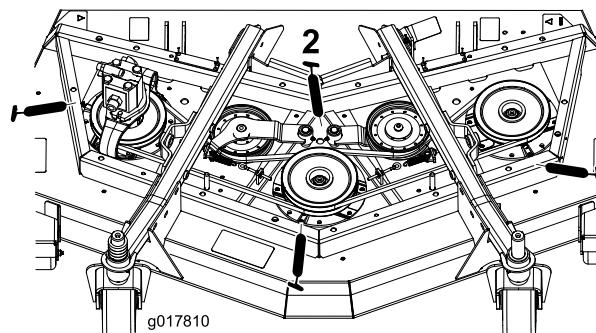

Figure 62
- 3 spindle-shaft bearings—located under the pulley (Figure 62)
- 2 idler-arm-pivot bushings (Figure 62)